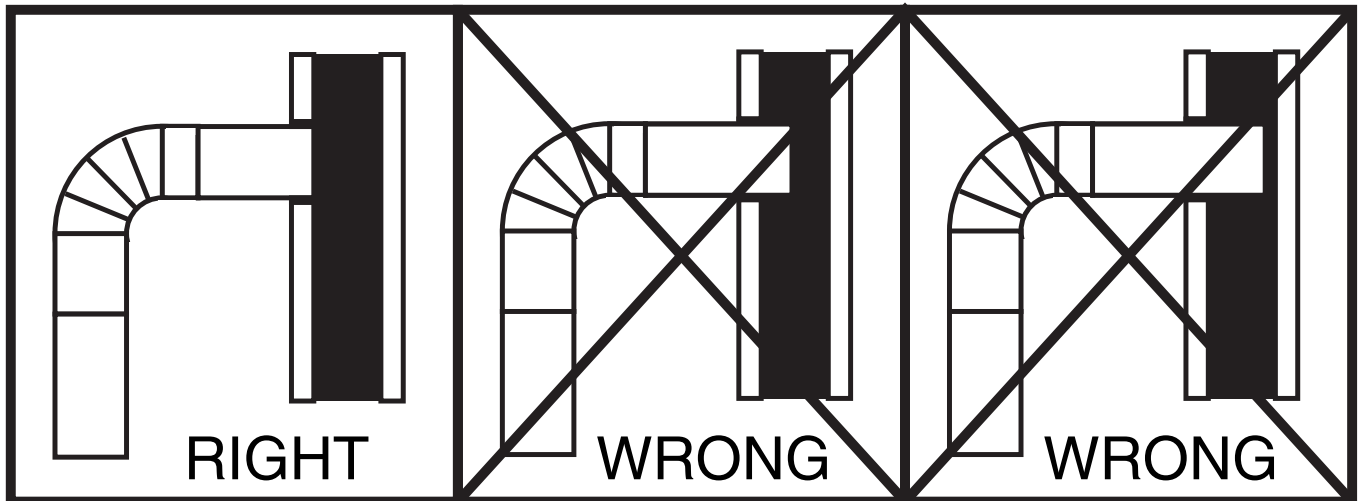

FIGURE 8
4. The pipe cannot extend into the chimney flue. (Fig. 8)
7. It is recommended that no more than two (2) 90 degree bends be used in the stove pipe installation as more than two (2) may decrease the amount of draw and possibly cause smoke spillage.